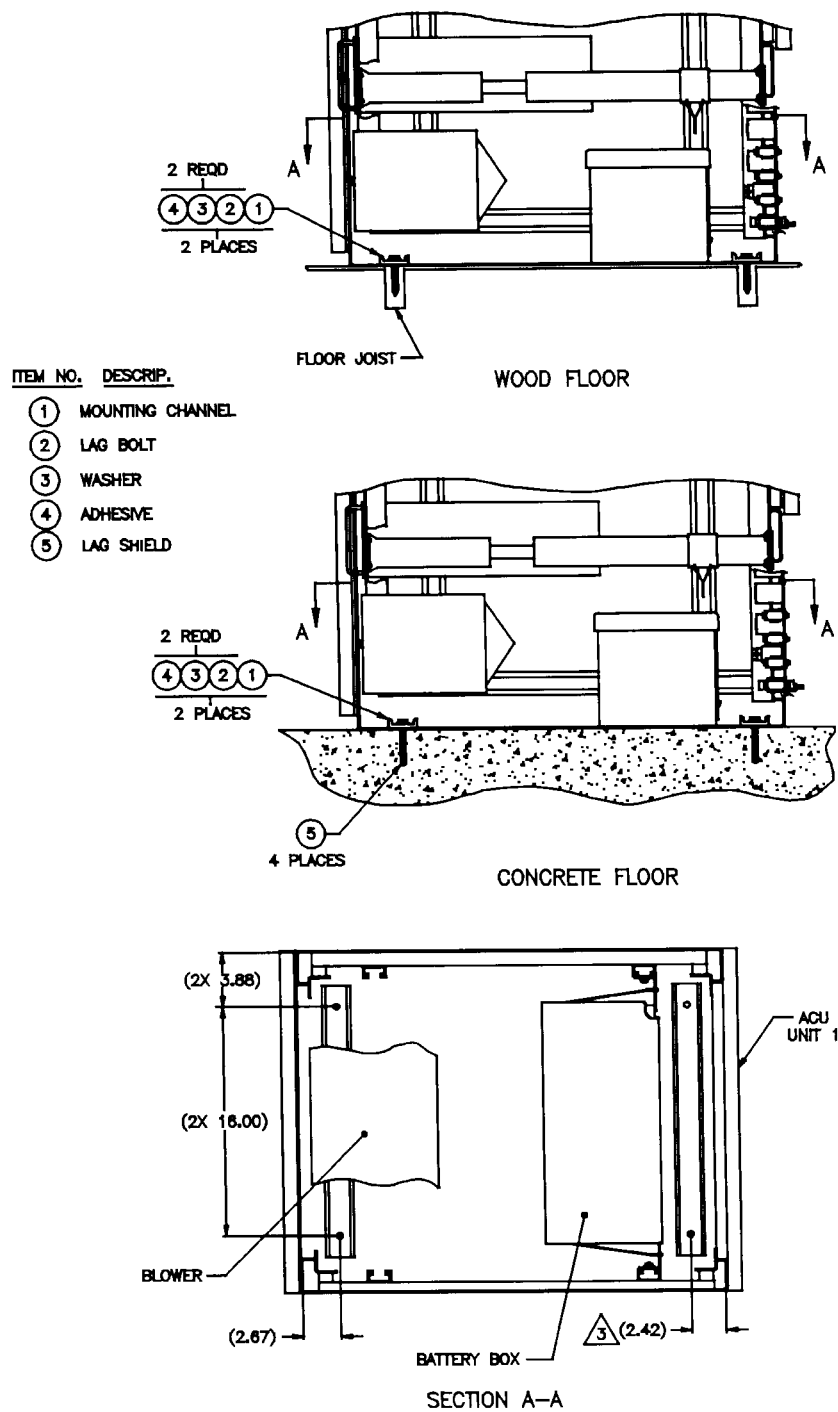

Figure 2.5.1 Earthquake Mounting Installation
15	<p>Secure ACU to floor. Determine the type of material that the ACU is to be mounted to (concrete or wood). Follow the instructions for that material type.</p> <p style="text-align: center;">CONCRETE</p> <p style="text-align: center;">NOTE</p> <p style="text-align: center;">Perform the following steps if the material that the ACU is to be mounted is composed of concrete.</p> <ol style="list-style-type: none"> <li>a. Place "U" channel pieces in ACU as shown in figure 2.5.1, Section A-A and mark bottom of ACU (in four places, as shown) in preparation for drilling mounting holes.</li> <li>b. Use a center punch to define hole centers to be drilled.</li> <li>c. Using 2X4 boards as supports, lift the ACU above the floor. Drill four holes, 0.397 inch in diameter, through bottom of cabinet.</li> <li>d. Place ACU in its exact position. Using the four holes drilled through the bottom of the ACU as a guide, mark the floor in preparation for drilling.</li> <li>e. Move ACU out of position and drill four holes 0.625 inch in diameter into the concrete to a depth of 2.88 inches each.</li> <li>f. Blow each hole clean of dust and insert an anchor (lag shield) into each hole until it is flush with the surface.</li> <li>h. Using sandpaper, remove paint and primer from around holes drilled in the ACU; clear a 0.75-inch diameter circle surrounding each hole diameter on the interior and exterior surfaces of the cabinet.</li> <li>i. Move ACU back into position and prepare all surfaces to be bonded. These surfaces include the bottom edge of each lag bolt, both sides of each washer, the area around each "U" channel hole, and the paint-free areas around the holes drilled in the ACU cabinet. Prepare all surfaces to be bonded using the following instructions: <ol style="list-style-type: none"> <li>(1) Scour all surfaces to be bonded with a Scotchbrite (or equivalent) pad.</li> <li>(2) Clean all surfaces to be bonded with denatured alcohol.</li> <li>(3) Apply primer to all surfaces to be bonded; allow to air dry for 2 hours.</li> </ol> </li> <li>j. Place the two "U" channel pieces into position and secure the ACU to the floor with the lag bolts and flat washers. The bottom edge of each lag bolt, each washer, and the paint-free areas around the holes drilled in the ACU cabinet should be coated with conductive adhesive immediately prior to use.</li> </ol>
<p>WOOD</p> <p>NOTE</p> <p>If the material that the ACU is to be mounted to is composed of wood, perform the following steps.</p> <ol style="list-style-type: none"> <li>Place "U" channel pieces in ACU as shown in figure 2.5.1, Section A-A and mark bottom of ACU (in four places, as shown) in preparation for drilling mounting holes.</li> <li>Use a center punch to define hole centers to be drilled.</li> <li>Using 2X4 boards as supports, lift the ACU above the floor. Drill four holes, 0.397 inch in diameter through bottom of cabinet.</li> <li>Determine the position of the ACU. The chosen position must allow the lag bolts to be screwed into the floor joists when the lag bolts are installed.</li> <li>Place ACU in its exact position. Using the four holes drilled through the bottom of the ACU as a guide, mark the floor in preparation for drilling.</li> <li>Move ACU out of position and drill four holes 0.312 inch in diameter through the wood floor and into the joists to a depth of 2.88 inches each.</li> <li>Blow each hole clean of sawdust.</li> <li>Using sandpaper, remove paint and primer from around holes drilled in the ACU; clear a 0.75-inch diameter circle surrounding each hole diameter, on the interior and exterior surfaces of the cabinet.</li> <li>Move ACU back into position and prepare all surfaces to be bonded. These surfaces include the bottom edge of each lag bolt, both sides of each washer, the area around each "U" channel hole, and the paint-free areas around the holes drilled in the ACU cabinet. Prepare all surfaces to be bonded using the following instructions: <ol style="list-style-type: none"> <li>Scour all surfaces to be bonded with a Scotchbrite (or equivalent) pad.</li> <li>Clean all surfaces to be bonded with denatured alcohol.</li> <li>Apply primer to all surfaces to be bonded and allow to air dry for 2 hours.</li> </ol> </li> <li>Place the two "U" channel pieces into position and secure the ACU to the floor with the lag bolts and flat washers. The bottom edge of each lag bolt, each washer, and the paint free areas around the holes drilled in the ACU cabinet should be coated with conductive adhesive immediately prior to use.</li> </ol>